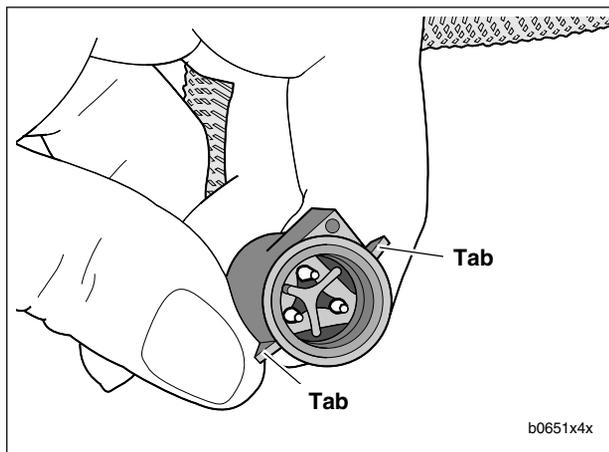

Figure 4-49. Tabs on TP Sensor Connector [88A]
4. See Figure 4-49. Attach throttle position sensor connector [88]. Slots on female connector [88B] must fully engage tabs on male connector housing [88A].